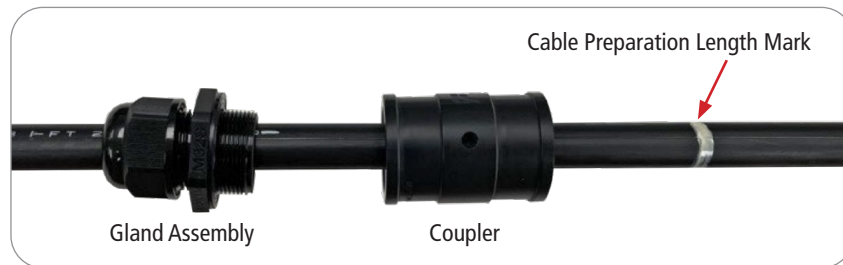

Figure 1
- B. Slide the gland assembly and then the coupler on the cable past the preparation length mark from **step 1** (**Figure 1**). Then remove the measured length of cable jacket as per the cable manufacturer's instructions.